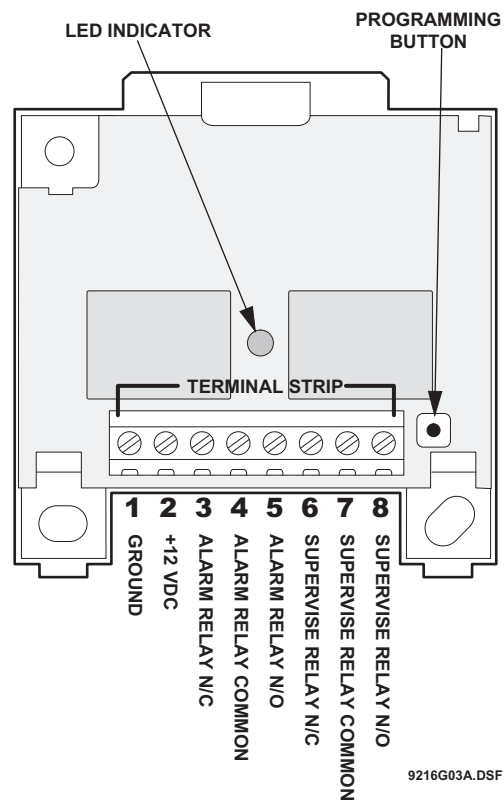

Figure 2. Parts of the Receiver
Use the programming button (see Figure 2) when doing the following procedures:
- Avoid mounting the receiver on a metal surface. When mounting on metal is unavoidable, mount the receiver so that the antenna extends above the metal surface (see Figure 2)